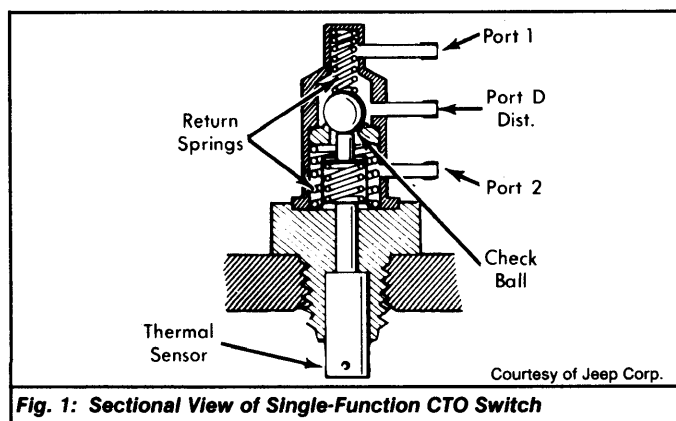

Fig. 1: Sectional View of Single-Function CTO Switch
**Single-Function for Standard Cooling** – When coolant temperature is below 160°F, check ball is held against inner seat by spring pressure. Manifold vacuum enters port “1” and is applied through port “D”. This allows full manifold vacuum to distributor. Above 160°F, port “1” is blocked, and carburetor ported vacuum enters through port “2” and connects to port “D”. Ported vacuum then controls spark advance. See Fig. 1.
**Single-Function for Heavy Duty Cooling** – Valve is used to prevent engine overheating at high ambient temperatures. When coolant temperature is below 220°F, carburetor ported vacuum enters port “1” and is applied through port “D”. This allows full ported vacuum to distributor. Above 220°F, port “1” is blocked and manifold vacuum enters through port “2” and connects to port “D”. Manifold vacuum then controls spark advance. See Fig. 1.